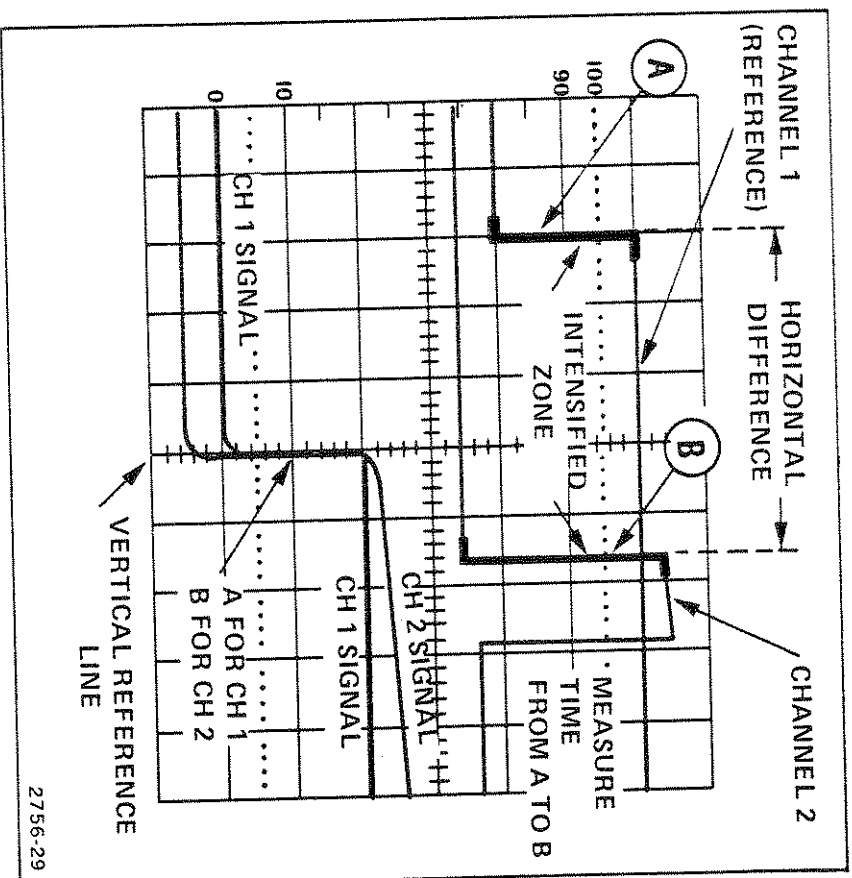

Figure 33. Time difference between two time-related pulses.
3. Adjust the channel POSITION controls and the TRACE SEP control for a display similar to Figure 33.
4. Adjust the DELAY TIME POSITION control to move the reference point to desired spot on the reference signal trace (see Figure 33, Point A).
6. Adjust the Δ TIME control to move the time measurement point to the desired spot on the Channel 2 trace (see Figure 33, Point B).